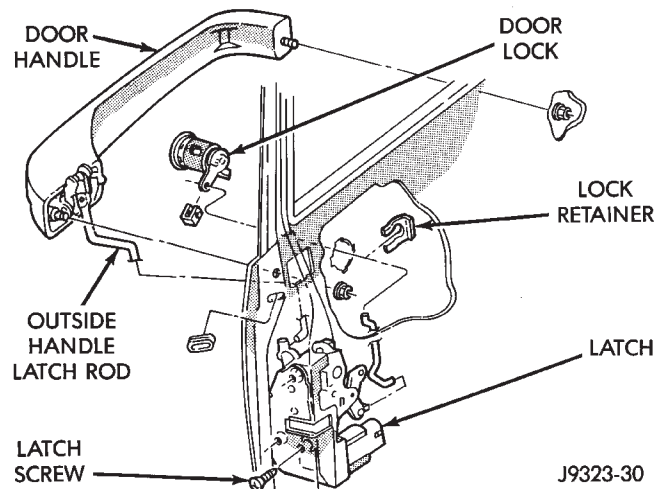

Fig. 11 Key Lock Cylinder & Door Latch
- (1) Remove door trim panel and waterdam. If necessary, refer to removal procedure.
- (2) Disconnect door latch lock cylinder rod at door latch (Fig. 11).